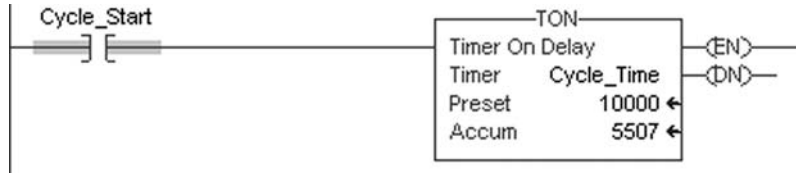

Figure 4-2 Use of an on-delay timer in ControlLogix. Note that the accumulated time has not reached the PRE value so the DN bit is false yet.
The TON instruction produces an on-delay timer. An on-delay timer can be used to turn an output on after a delay. An on-delay timer begins accumulating time when the rung conditions become true. If the accumulated time in the timer becomes equal to or greater than the preset time, the timer done (DN) bit is set to a 1. Figure 4-2 shows an example of an on-delay timer.